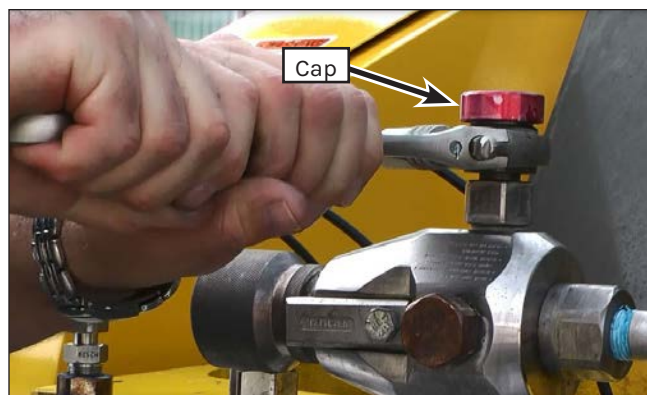

Figure 84: Housing/Cap Removal (15K Manifold Shown).
1. Use an adjustable wrench to remove the cap (Figure 84) from the rupture disc assembly.